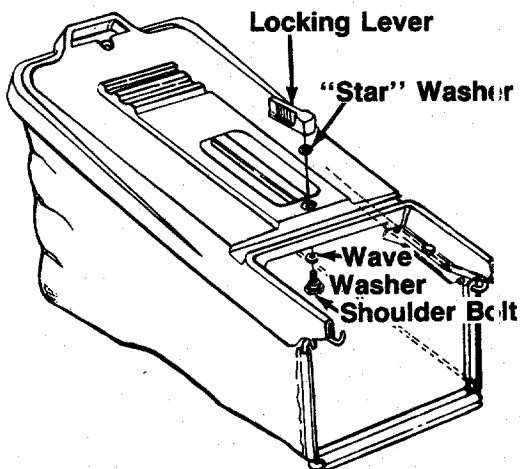

FIGURE 13.
- b. Insert shoulder bolt up through hole in hardtop cover as shown in figure 13. Place "star" washer over shoulder bolt.